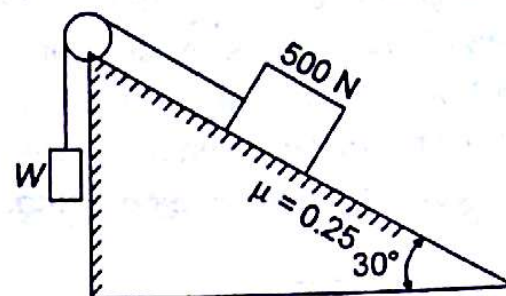

Fig. 6.21
- 6.3 Determine the range of magnitude of weight W for which the block of 500 N weight will either slide down the plane or slide up the plane. At what value of W , the friction force will become zero. Refer to Fig. 6.21.